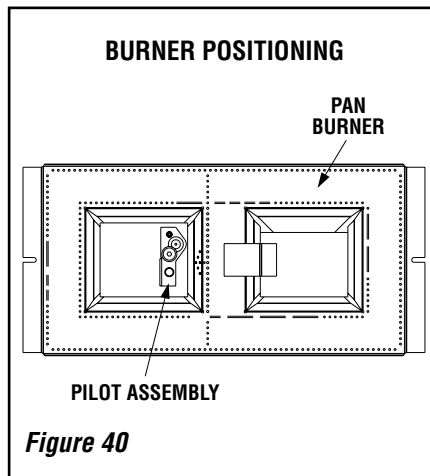

Figure 40
B. Install the burner as shown in *Figure 40*.